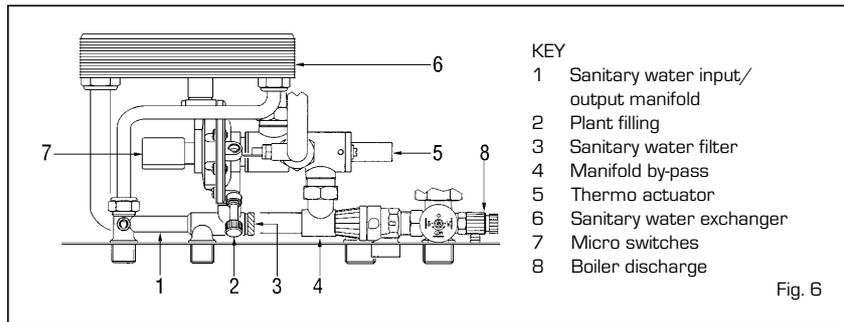

Fig. 6
A) Using the loading lever of the pressure control valve (2 fig. 6). Loading pressure, when the plant is cold, must be between **1-1.2 bar** as indicated on the water gauge.
This operation is carried out by means of the discharge (8 fig. 6). Before this operation, switch off the boiler.